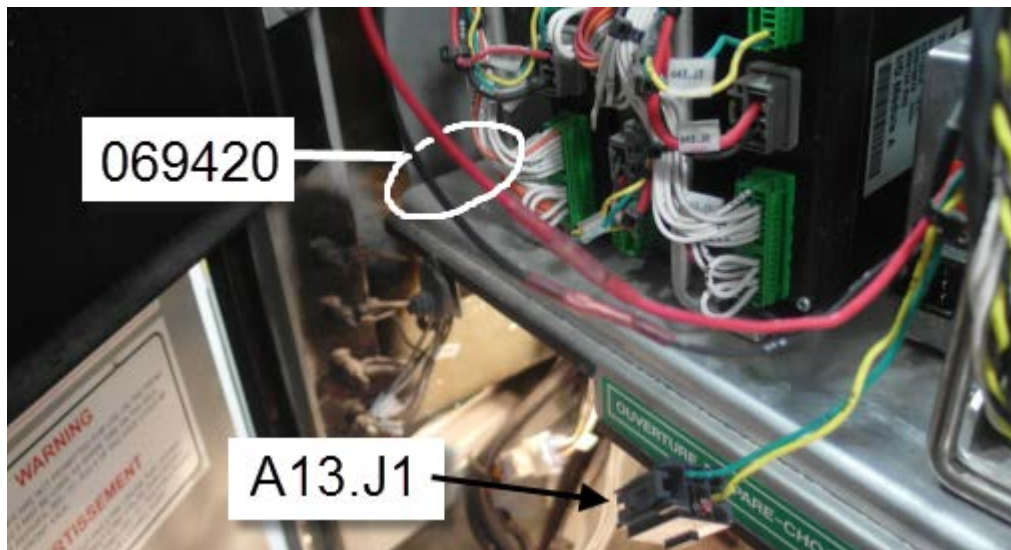

FIGURE 7
7. Crimp circuit 24VI (red) & GND2 (black) of harness 069024 to circuits 24 WUP (red) & GND (black) respectively of Master ID connector A13.J1 (see FIGURE 7). Heat up each butt splice shrinking sleeve